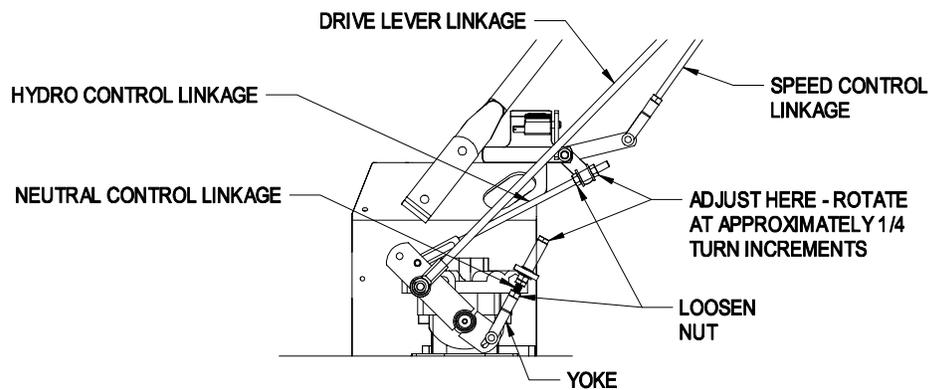
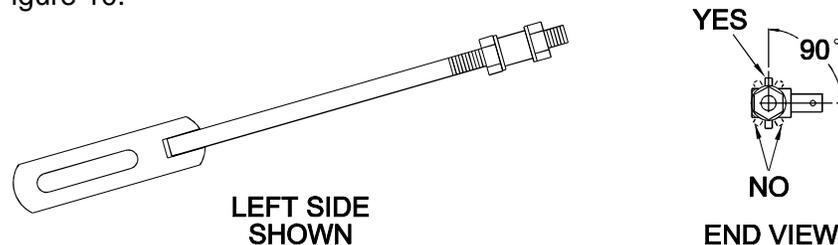

FIGURE 9
FIGURE 10
- c) Adjust anti-scalp rollers for Normal Operating Conditions. Place rollers in one of the positions shown in Figure 10. Rollers will maintain 3/4 in. (19 mm) clearance to the ground to minimize gouging and roller wear or damage.
4. Loosen the nut against the neutral control linkage yoke as shown in Figure 9.
2. Loosen the front nut on **left** hydro control link as shown in Figure 9. Turn the rear control linkage adjusting nut counter-clockwise until wheel rotates forward. Turn the rear nut of left control link clockwise 1/4 of a turn at a time, stopping to move the speed control forward and back to neutral, until left wheel **stops** rotating forward. Turn the nut an additional 1/2 turn and tighten the front jam nut making sure not to put a bind on the linkage. Make sure flat part of linkage is perpendicular to pin part of swivel. See Figure 10.